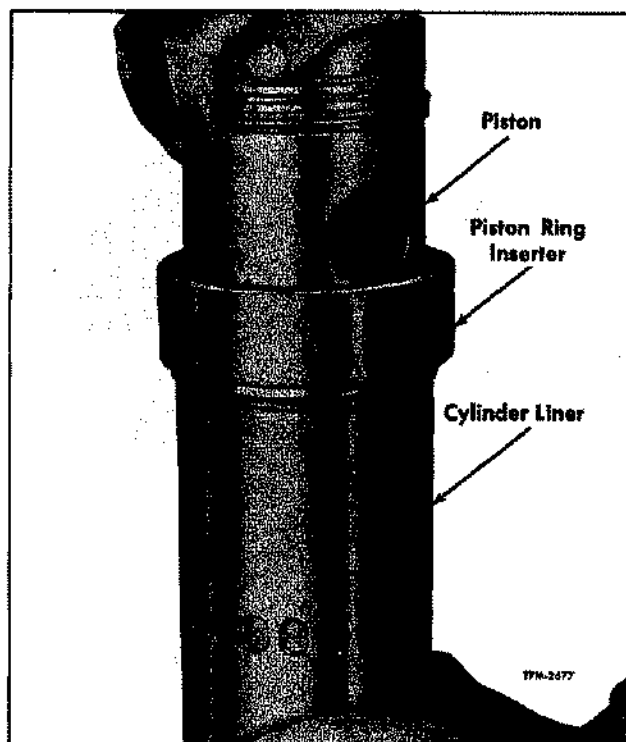

Figure 50—Installing Piston in Cylinder Liner
3. Piston and connecting rod assembly can also be installed in liner as a bench operation (fig. 50) with wood, heavy cardboard, or cloth protecting liner. Insert piston into the large end of piston inserter. Align piston and inserter with top of liner and press the piston into liner with a steady push until piston and rings are completely within the liner.